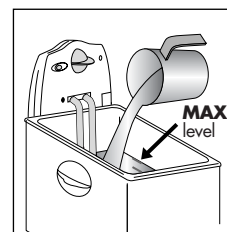

fig. 4
- Pour 4 litres of oil into the bowl until reaching the maximum level indicated (see Fig. 4). For best results, use good quality oil. Avoid mixing different types of oil.